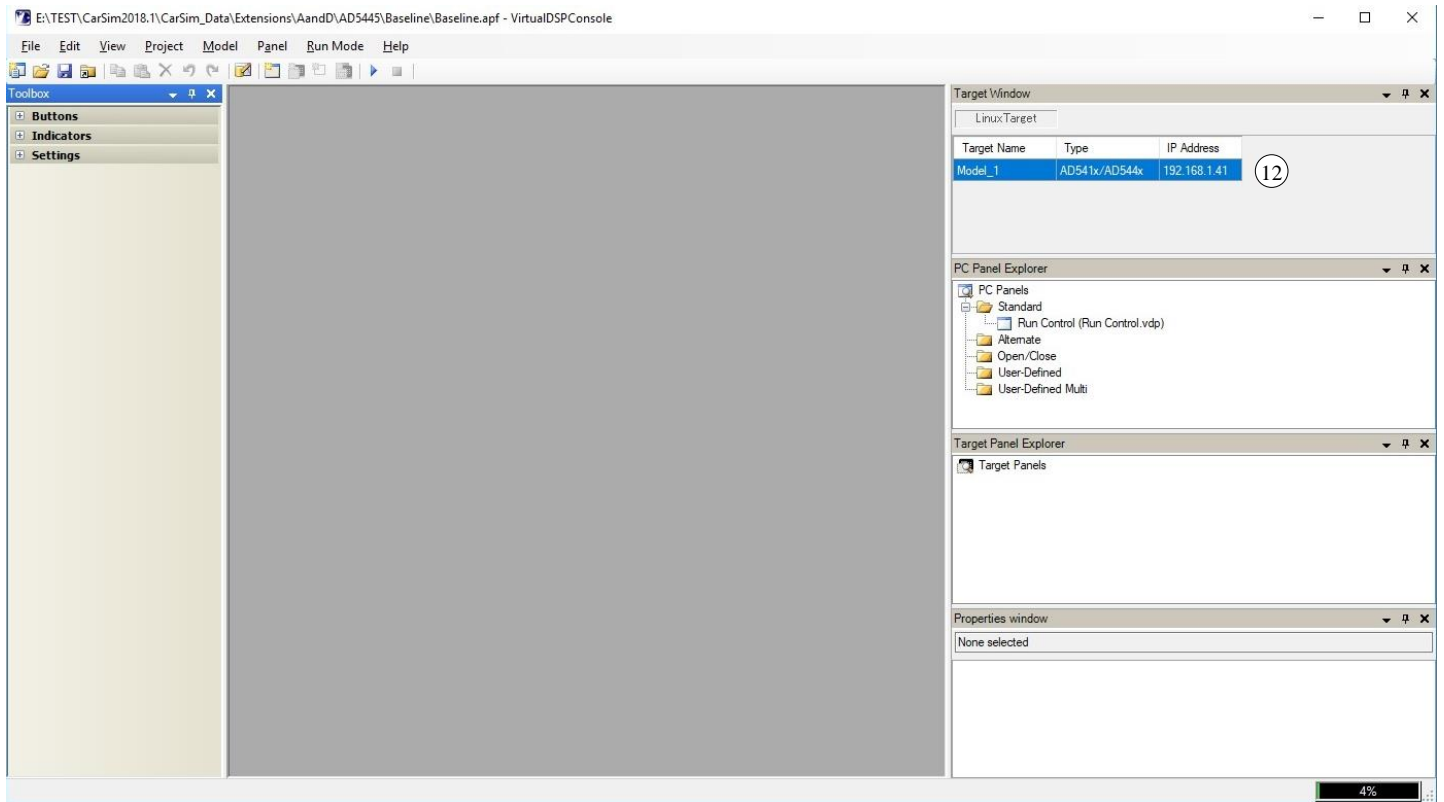

Figure 12. VirtualDSPConsole
14. Go to the CarSim database to the CarSim_Data > Extensions > AandD > AD5445 > Baseline folder. Double click on the Virtual Console application project file, “baseline.apf,” to open VirtualDSPConsole (Figure 12). Alternatively, you can start VirtualDSPConsole from your desktop or Start Menu and open the project file from within the GUI.